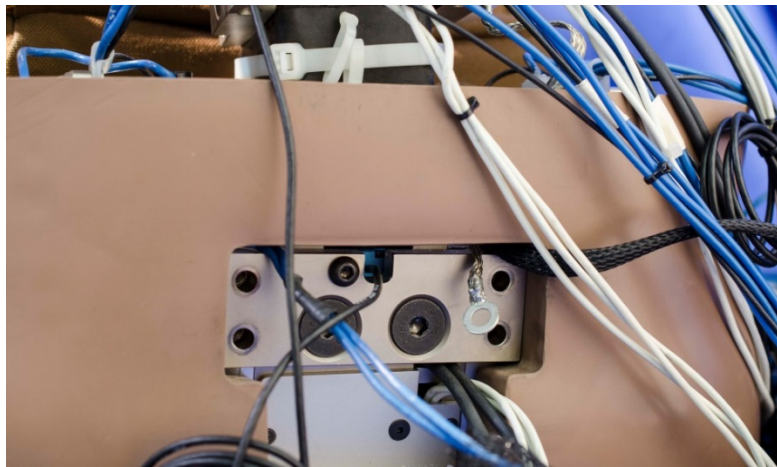
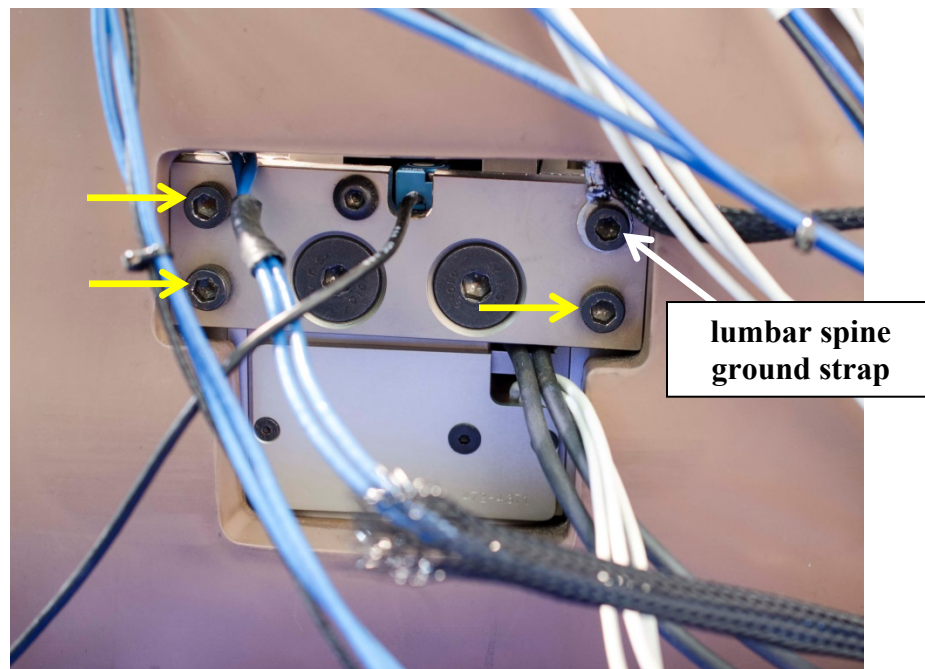

Figure 9-29. Lumbar ground strap attachment to pelvis
Figure 9-30. Loosely install rear attachment plate to hold lower abdomen to pelvis
- 9.2.3.4 The Lumbar Spine Ground Strap (472-8703) connects the Lower Abdomen at the Rear Attachment (472-4761) to the Spine at the Thoracic Spine Load Cell/ Flex Joint Adaptor Plate (472-3761). Place the Lumbar Spine Ground Strap over the upper right bolt before inserting the bolt (Figure 9-29). *Loosely* install four M6 x 1 x 16 SHCS to the rear attachment plate to hold the abdomen to the pelvis (Figure 9-30).